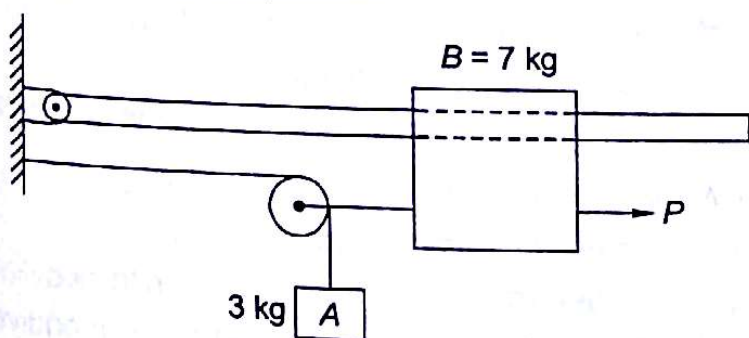

Fig. 15.18
- 15.2 System shown in the Fig. 15.18 is initially at rest. Neglecting friction determine force P required if velocity of collar B becomes 4 m/s in 2 seconds, after start. What is tension in the cable at the end of which 3 kg mass is suspended.